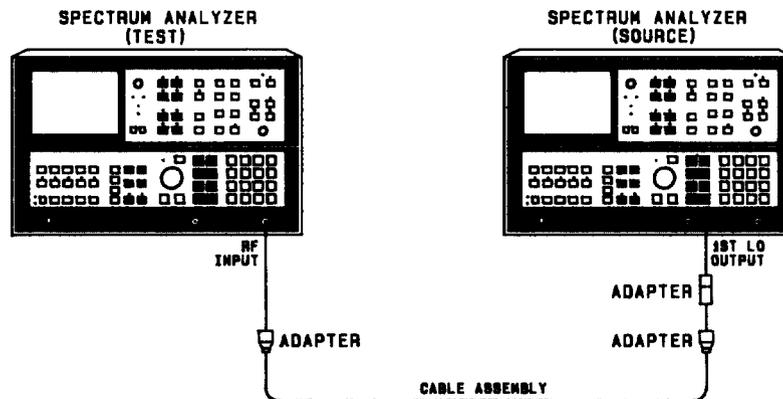

FIGURE 22. NOISE SIDEBANDS TEST SETUP
3. Connect 1ST LO OUTPUT of source analyzer to RF INPUT of analyzer under test as shown in Figure 22.